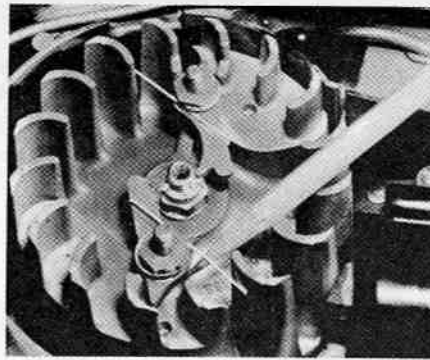

Fig. HL13—View showing proper installation of pawl springs.
If starter pawls were removed, be sure springs are properly engaged with vanes on flywheel as shown in Fig. HL13. When installing new starter rope, knot ends as shown in Fig. HL14, pull the knots tight and coat with Duxseal (Homelite part No. 24352).
Fig. HL12—Exploded view of EZ rewind starter. When installing pawl springs, refer to Fig. HL13 for correct installation. Starter rope is installed as shown in Fig. HL14. Outer loop of rewind spring (5) engages notch in cover (2) as shown in inset at left.